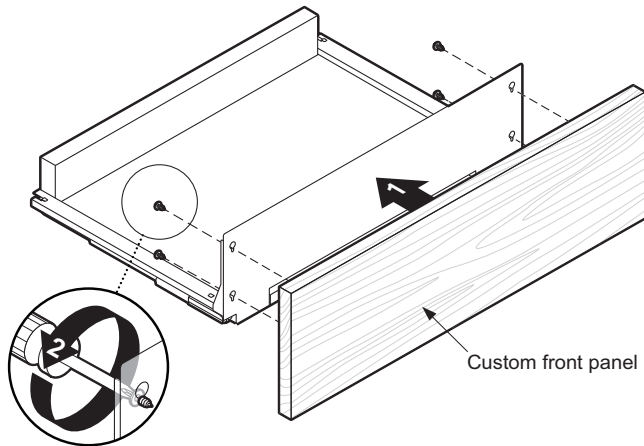

Figure 7: Custom Front Panel Installation
3. Attach drawer front with four (4) 1/2" (12.7 mm) screws through the back side of drawer front (*Figure 7*).